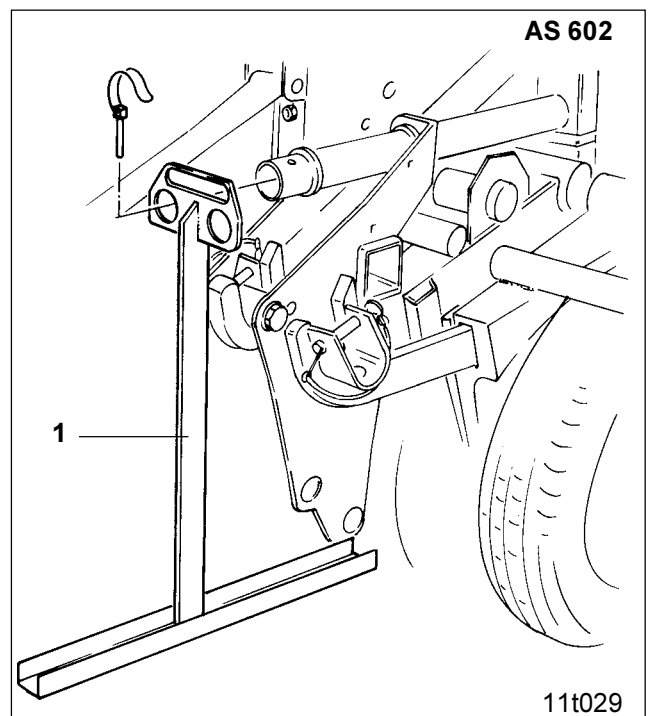

Fig. 4.9
- inner supports (Fig. 4.9/1) for AS 602